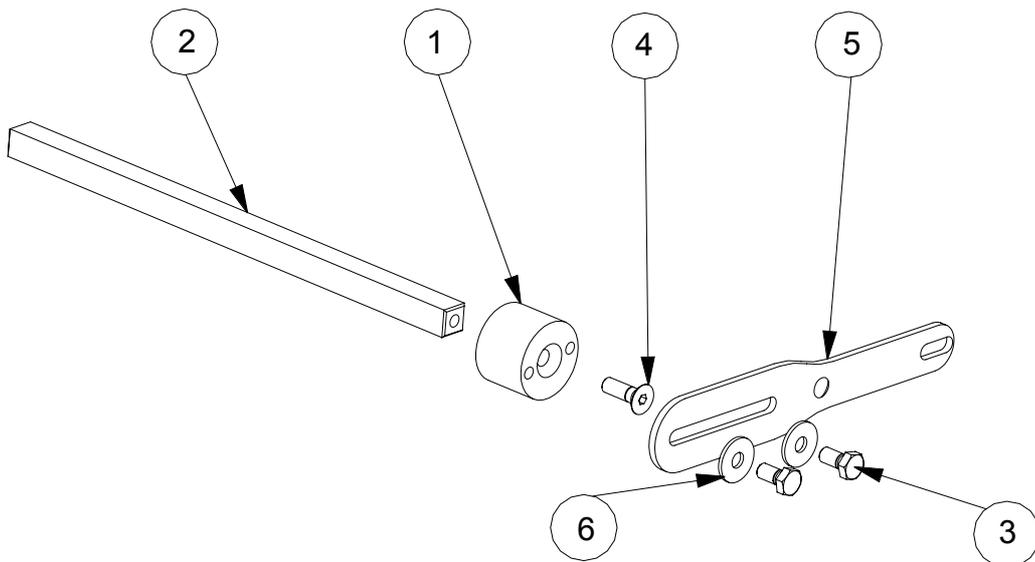

Figure.2
2. **ARMS AND HANDLES ASSEMBLY:** Each arm (2) must be joined to an arm support (1) through a M8x25 DIN 7991 countersinks screws (4). Once together, they must be joined to a handle (5) through two M8 x 16 DIN 933 8.8 (3) screws and two washers DIN9021 M8 (6), making sure that the countersink of the handle is on its inner face, – Fig. 2 –.